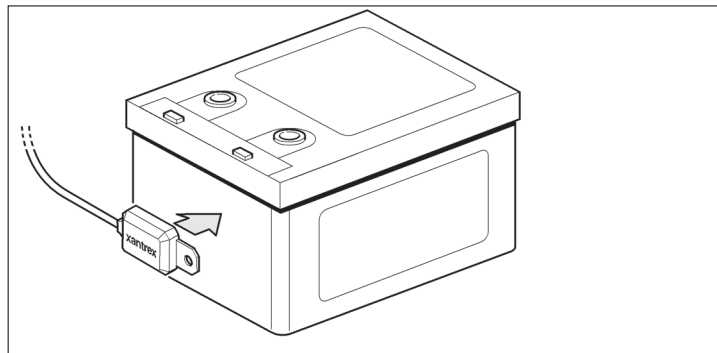

Figure 14 BTS Mounted on the Battery Case
5. Press the sensor firmly against the clean side of the battery to fix it in place, as shown in Figure 14.